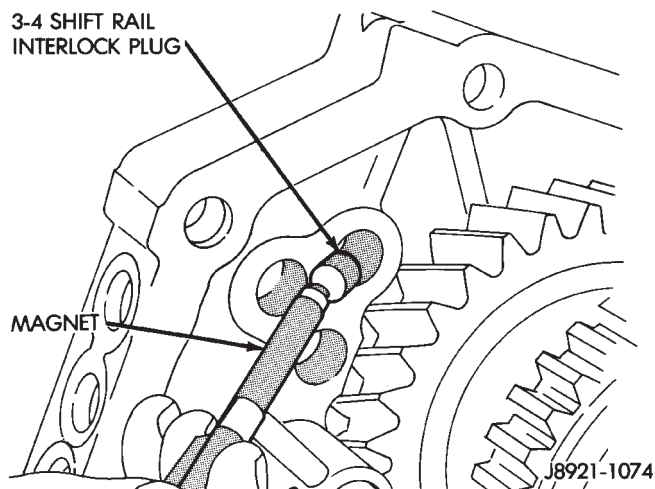

Fig. 45 Removing 3-4 Shift Rail Interlock Plug
(5) Remove 3-4 shift rail interlock plug from intermediate plate with magnet (Fig. 45).